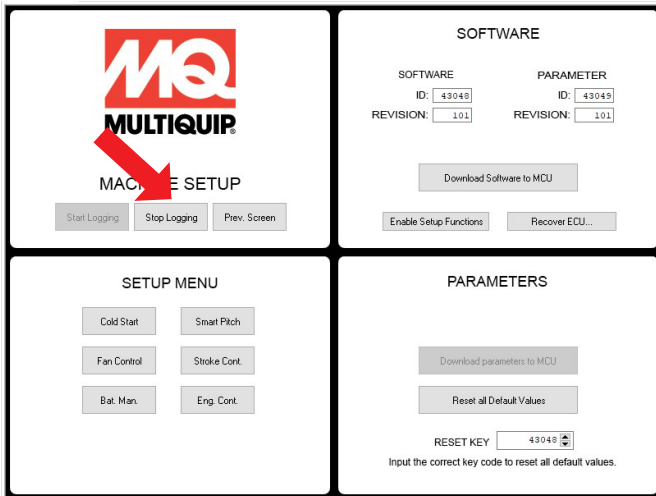

Figure 29. Stop Logging Screen
- Click on "Stop Logging" button (Figure 29).